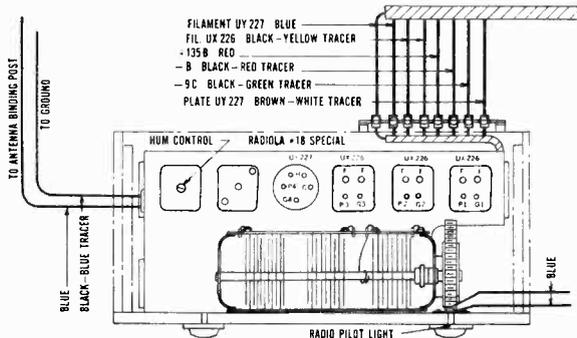

Fig. 1—Radiola Sockets and Terminal Strip
**B. GRID TESTS**—Using the "C" position of the Weston Radio Set Tester, or the high scale of the separate voltmeter, test the "C" voltage in all sockets except the detector. When using the separate voltmeter, place the negative lead in the "G" socket contact as shown in Fig. 1, and the positive